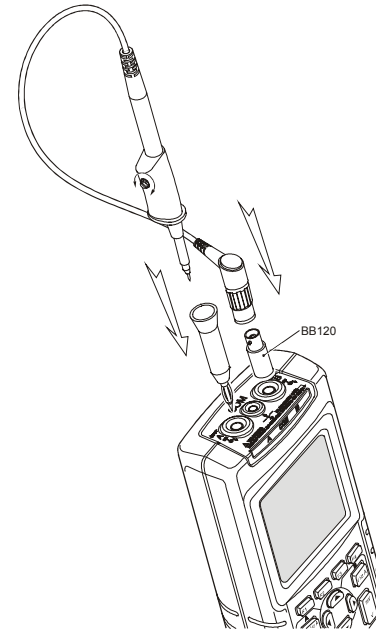

Figure 2-3. Adjusting Scope Probes
- Connect the 10:1 scope probe from the gray input B jack to the red input A jack. Use the red 4-mm banana adapter (delivered with the probe) and the banana-to-BNC adapter (BB120). See Figure 2-3.